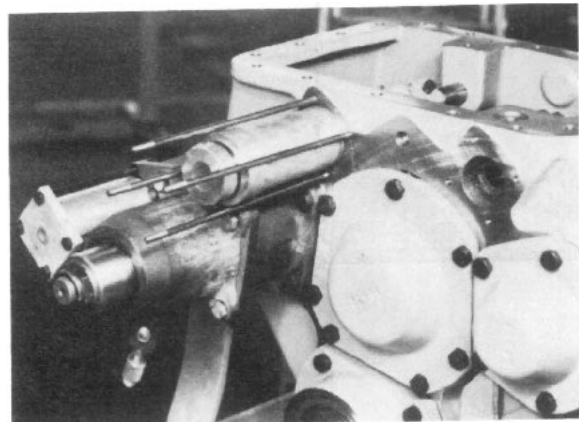

Fig. 36
9. If the transfer case is equipped with a PTO unit, the case must have a neutral position. Neutral is obtained through the use of a "piggy-back" cylinder mounted on the high-neutral cylinder (see Page PM7). This "piggy-back" cylinder, when actuated by properly connected air valves, provides this neutral position. The "piggy-back" cylinder consists of an adaptor (Item 41) into the grooves of which are installed oiled o-rings the adaptor may be put either end first (it is symmetrical) into the end of the high-neutral shift cylinder tube (See Fig. 36). The air inlet connection should point in the same direction as when removed. The "piggy-back" shift shaft piston assembly (with nylon stop ring over the end of the shaft) should now be inserted into the "piggy-back" adaptor. Slip the "piggy-back" shift cylinder tube (Item 43 which is 31/8" long) over this piston.